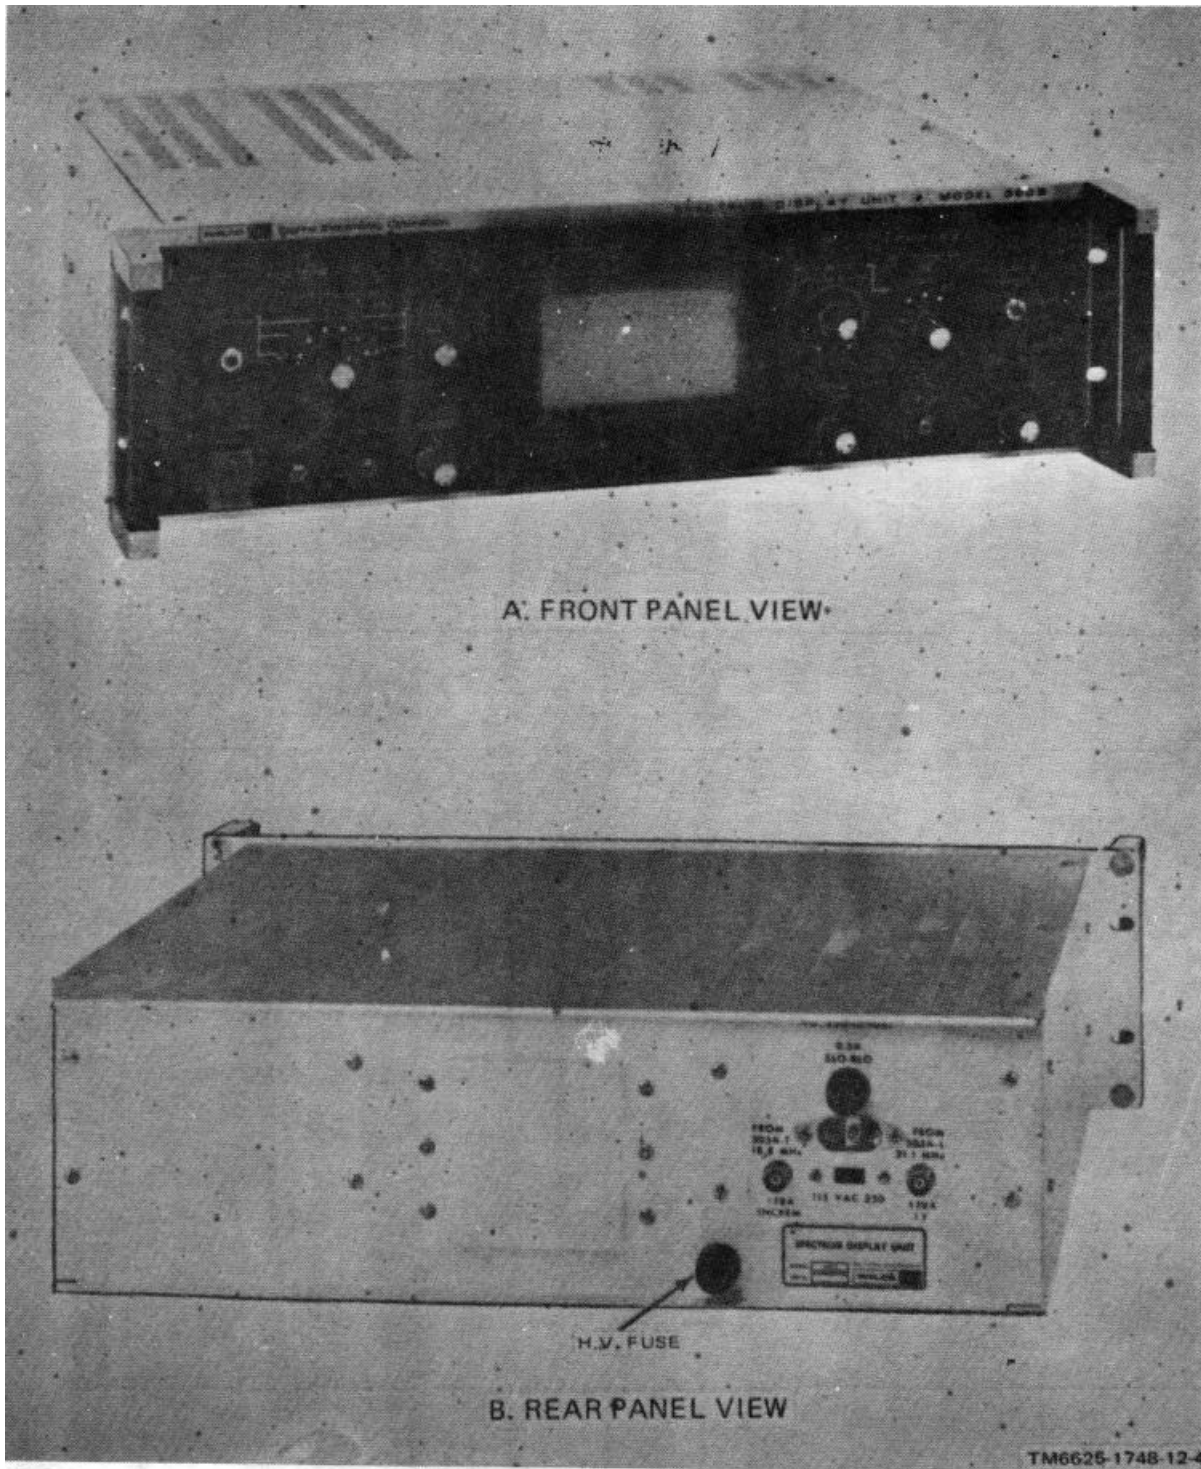

Figure 1-4. IP-1018/U spectrum analyzer.
c. Spectrum Analyzer 1018/U (fig. 1-4). The spectrum analyzer provides a visual display of the signal present in either a 120-kHz, a 12-kHz, or a 3.6-kHz band of the frequency spectrum. These signals are presented on the CRT display calibrated for both signal amplitude and frequency with respect to the audio-radio frequency monitor tuning unit. Signals differing by 60 Hz may be separated to 40 db down. There is a rapid sweep for search mode operation. slower rates for signal resolution, and a single sweep mode for trace photography.